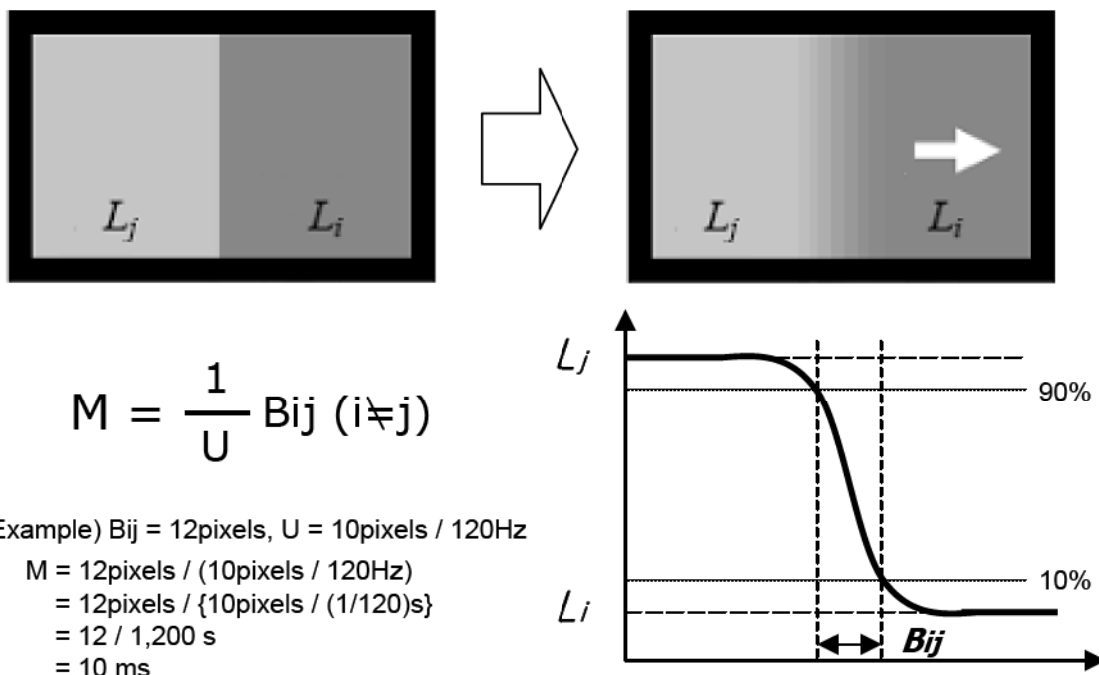

FIG. 3 MPRT
4. MPRT is defined as the 10% to 90% blur-edge width B_{ij} (pixels) and scroll speed U (pixels/frame)at the moving picture. For more information, see FIG 3.